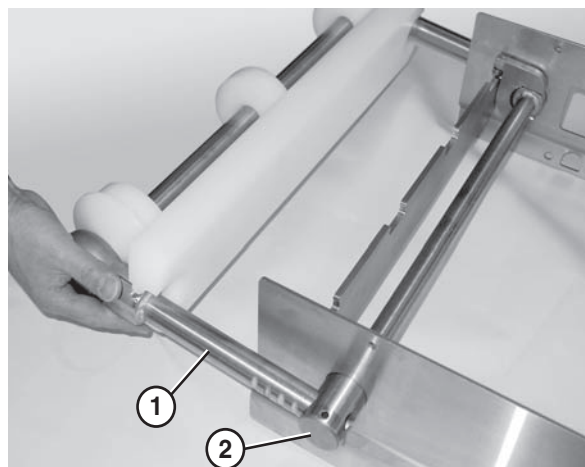

Figure 27
3. Slide the bearing shafts (Figure 27, item 1) into the holes in the tip up shaft (Figure 27, item 2).